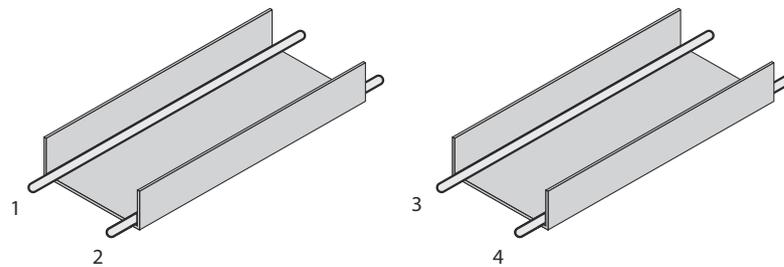
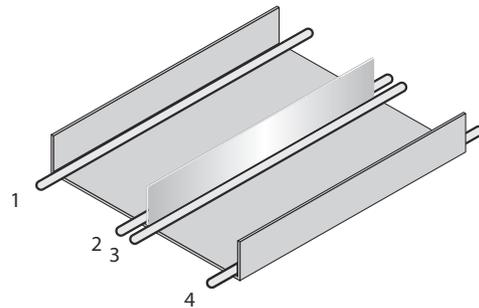

Figure 39: Ideal laying - Place cables in different cable channels
Figure 40: Alternative laying - Separate cables with metallic separators
- ▶ Route the cables in groups 1, 2 and 3, 4 in different cable channels or use metallic separators (see figure 39 and figure 40). This applies particularly if cables of devices with a high level of radiated emission, such as frequency converters, are laid parallel to device cables.